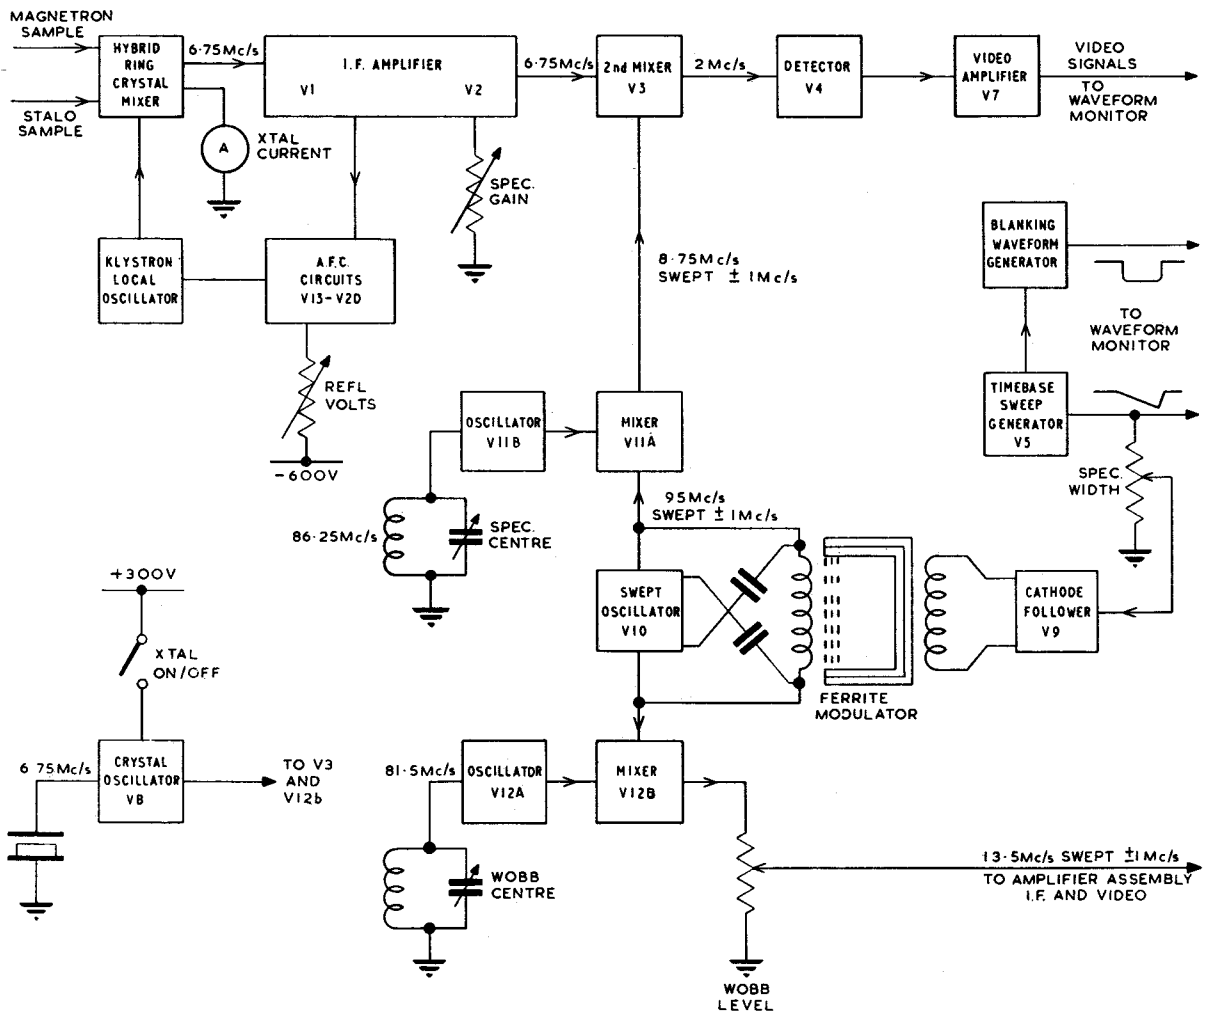

Fig. 2. Analyser, spectrum M1 : block diagram
3. A block diagram of the analyser circuit is given in *fig. 2*. The unit is essentially a double-superheterodyne microwave receiver with a klystron 1st local oscillator and a swept-frequency 2nd local